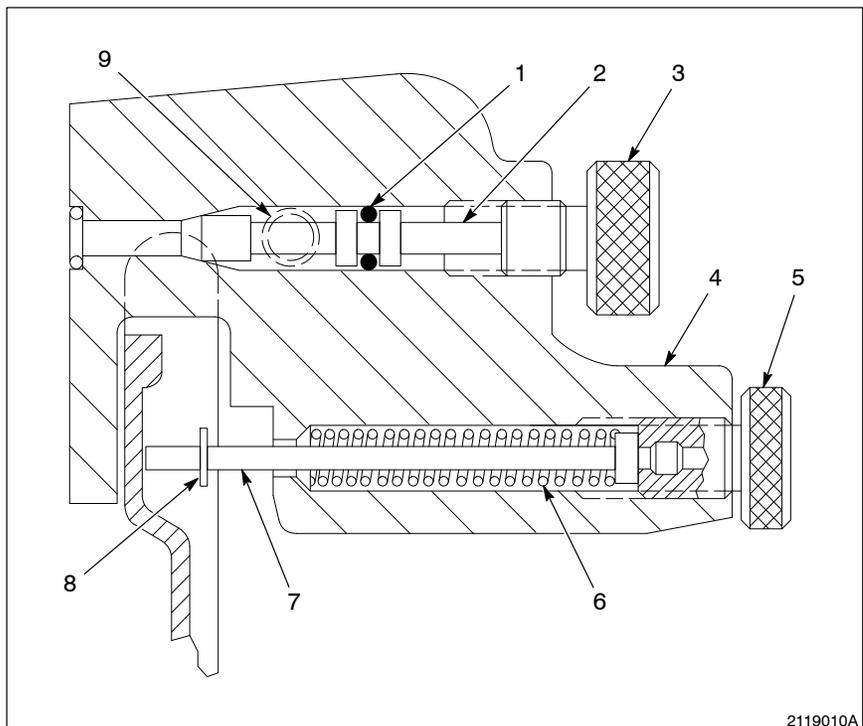

Fig. 7-3 Air Adjustment and Trigger Stop
9. See Figure 7-3. To remove the adjustment hardware from the gun handle, perform the following steps:
- a. Loosen the rearmost set screw (9) at the right-hand side of the gun handle (4).
- b. Rotate the air adjustment knob (3) counterclockwise until you can pull the air valve needle (2) from the gun handle. Remove the O-ring (1).
- c. Rotate the trigger stop knob (5) until you can pull the trigger stop needle (7) from the gun handle (4).
- d. Remove the spring (6).
- e. Remove the retaining ring (8) from the trigger stop needle (7).
- b. Warm a syringe (2) of dielectric grease to about 37–43 °C (98–110 °F) by holding it in your hands or running the syringe under warm water.
- c. Insert the flexible tube (3) of the syringe into the electrostatic cable port on the cable adapter.
**NOTE:** The end of the cable acts as a piston in the insulating tube (4), pushing the dielectric grease (1) around the resistor and spring (5), and around the exterior of the tube. This totally covers the high-voltage contact points inside the gun with dielectric grease.
- e. Install the insulating tube (4), resistor-end first (6), into the gun extension.
9. See Figure 7-3. Install the air valve needle (2) and the trigger stop needle (7).
2. See Figure 7-3. Install the retaining ring (8) on the trigger stop needle (7), and then tighten the rear-most set screw (9) on the right-hand side of the gun handle (4).